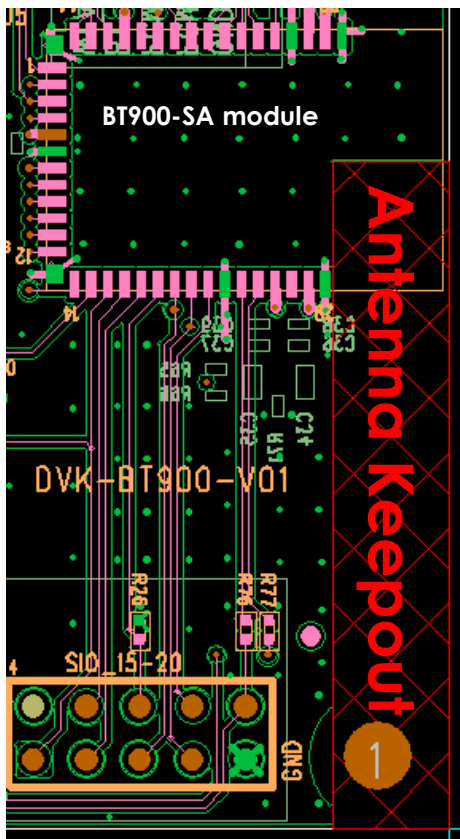

Figure 9: Antenna keep-out area (shown in red), corner of the BT900 development board for BT900-SA module.
- The BT900 development board has the BT900-SA module on the edge of the board (not in the corner). The antenna keep-out area is defined by the BT900 development board which was used for module development and antenna performance evaluation is shown in Figure 9, where the antenna keep-out area is ~4.2 mm wide, 34.2 mm long; with PCB dielectric (no copper) height 1.0 mm sitting under the BT900-SA antenna.
- The antenna-keep-out defined in Host PCB Land Pattern and Antenna Keep-out for BT900-SA applies when the BT900-SA is placed in the corner of the host PCB. When BT900-SA cannot be placed as such, it must be placed on the edge of the host PCB and the antenna keep out must be observed. An example is shown in Figure 9.